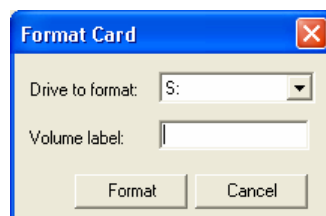

Figure 18 - Format Card Dialog
3. If a memory card is detected the Format Card dialog (Figure 18) appears.